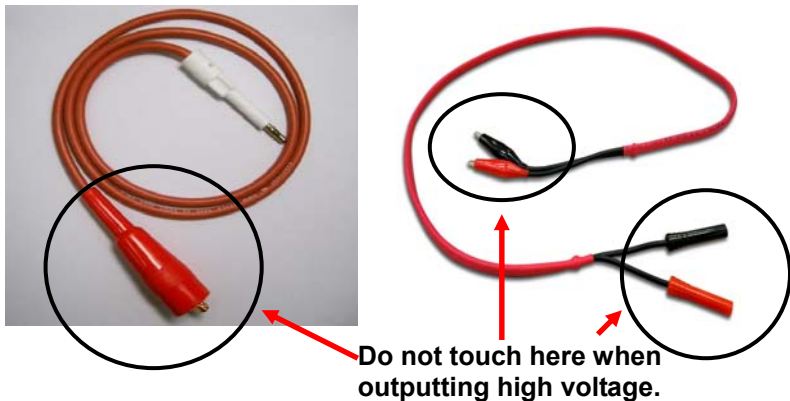

Figure 2-4
- * Do not touch the alligator clip on the test cable as Figure 2-4 shows. When the host is in test state the insulation of rubber shield on it is not enough; therefore it is hazardous to touch it.